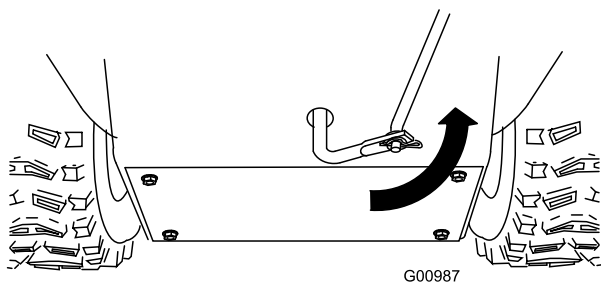

Figure 12
5. Rotate the lower link arm fully upward (counterclockwise) (Figure 12).